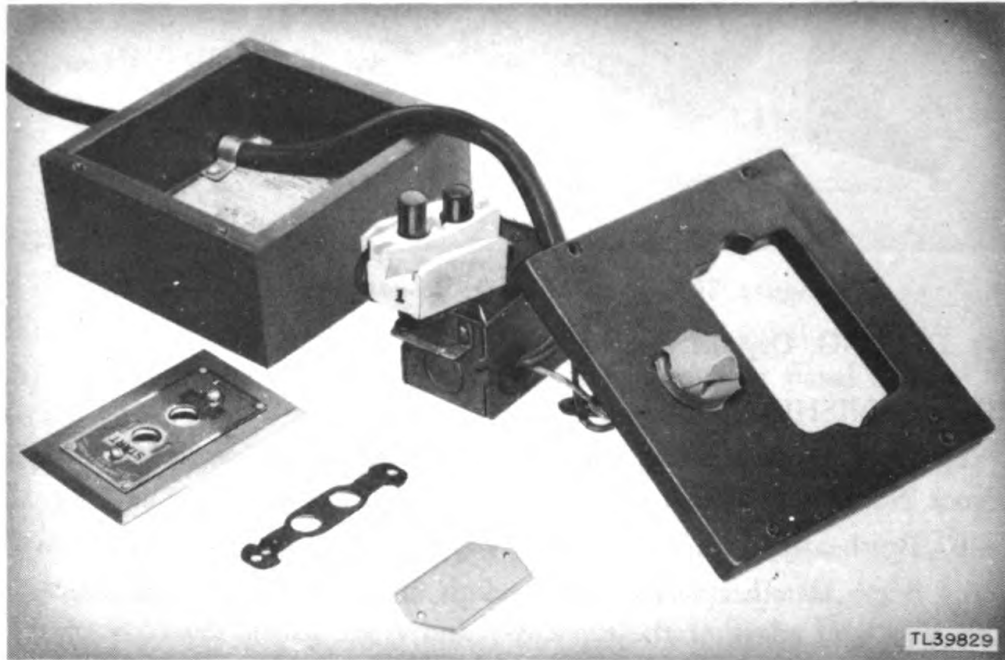

Figure 31. Remote Control Box BC-670-B, masking details.
(3) MASKING (fig. 31). Mask the pilot lamp jewel cap on the top panel.